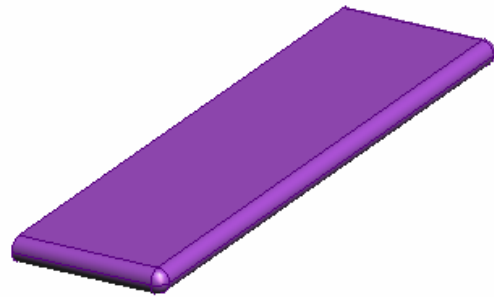

Figure 13. Finished Bottom and Middle Step.
29. Select front and side edges (do not select the back edge), right click and round them to 0.375". The back face remains unrounded to fit flush in the final assembly. Figure 13 shows the finished step. Save it and name it Bottom and Middle Step.